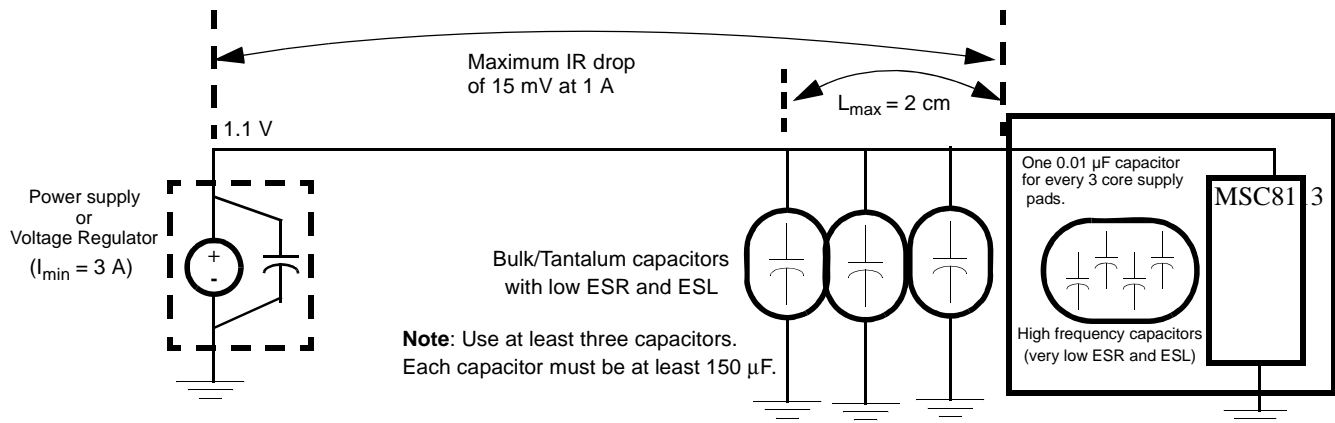

Figure 32. Core Power Supply Decoupling
Figure 32 shows the recommended power decoupling circuit for the core power supply. The voltage regulator and the decoupling capacitors should supply the required device current without any drop in voltage on the device pins. The voltage on the package pins should not drop below the minimum specified voltage level even for a very short spikes. This can be achieved by using the following guidelines:
- Decouple the supply using low-ESR capacitors mounted as close as possible to the socket. **Figure 32** shows three capacitors in parallel to reduce the resistance. Three capacitors is a recommended minimum number. If possible, mount at least one of the capacitors directly below the MSC8113 device.